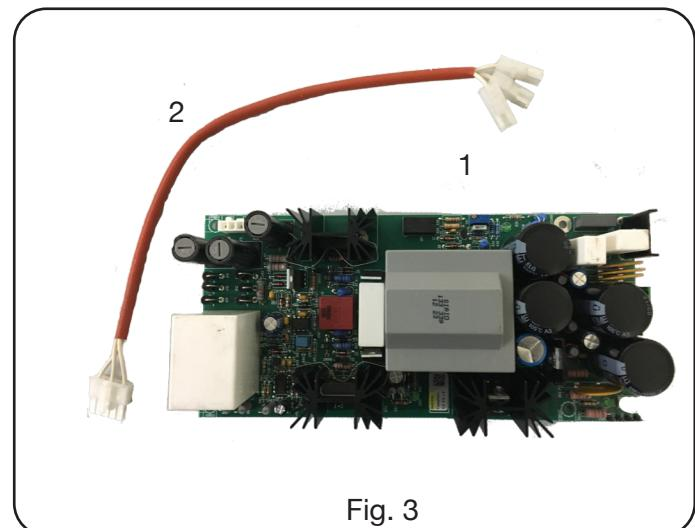

Fig. 3
The Robot Power Supply Kit, art. 435.00 is made up of the elements visible in fig. 3.
- Place the board 1 (Fig. 3) into the Power Source appropriate slot next to the measuring circuit pos.4 / pre-charge circuit pos. 87 (381.80).
- Connect one end of the wiring 2 (Fig. 3) to the J1 connector on the board 1 (Fig. 3).
- Connect the other end of the wiring 2 (Fig. 3) to the points indicated by the electric diagram corresponding the Power Source in use (par. 8).